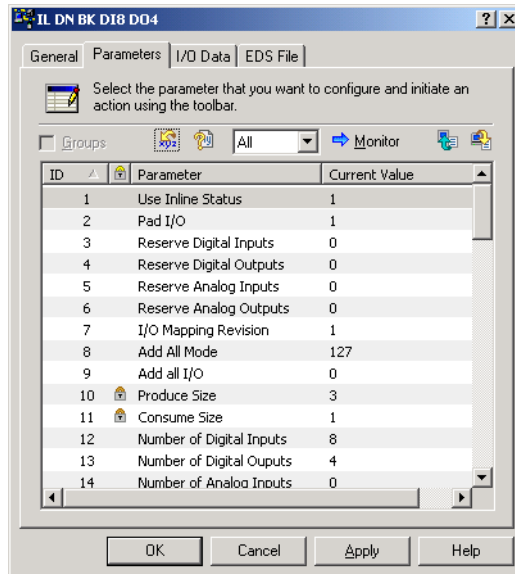

Figure 3-6 EDS File Parameters window
2. Double click the Inline icon. Then select the "Parameters" tab. At this point the EDS file parameters window will be displayed. See Figure 3-6.